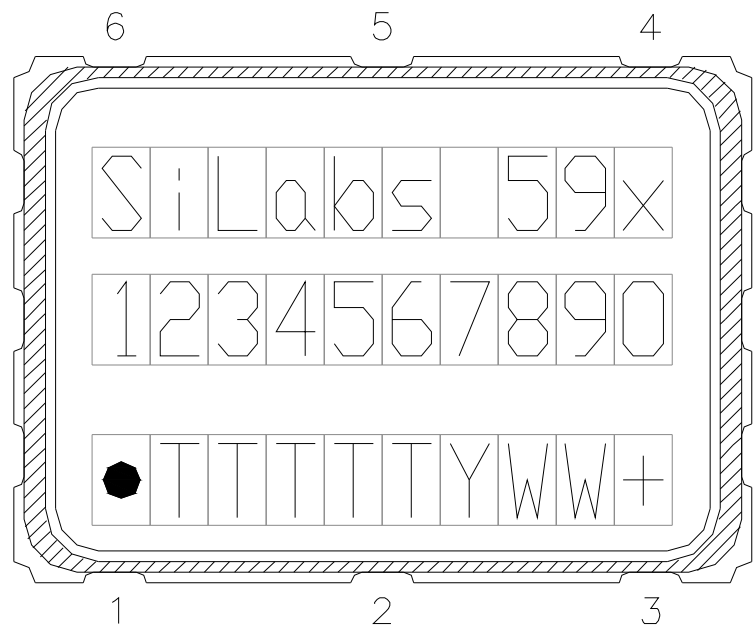

Figure 6. Mark Specification
Figure 6 illustrates the mark specification for the Si59x. Table 18 lists the line information.
- Updated Figure 6 and Table 18 on page 23 to reflect specific marking information.